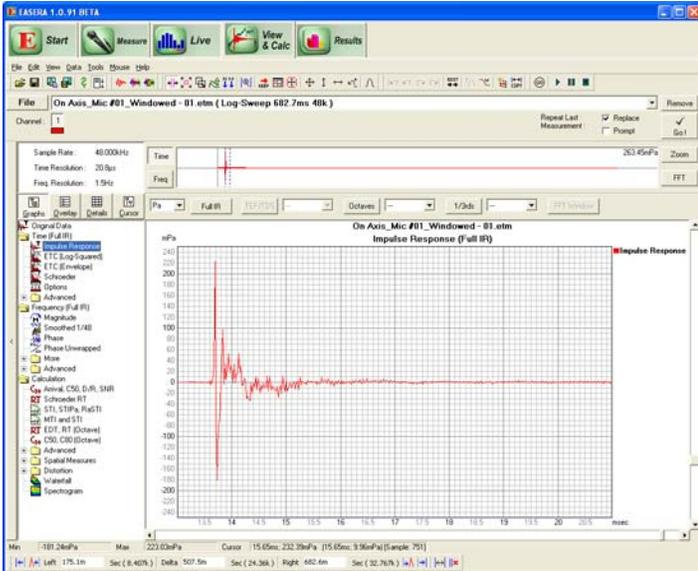
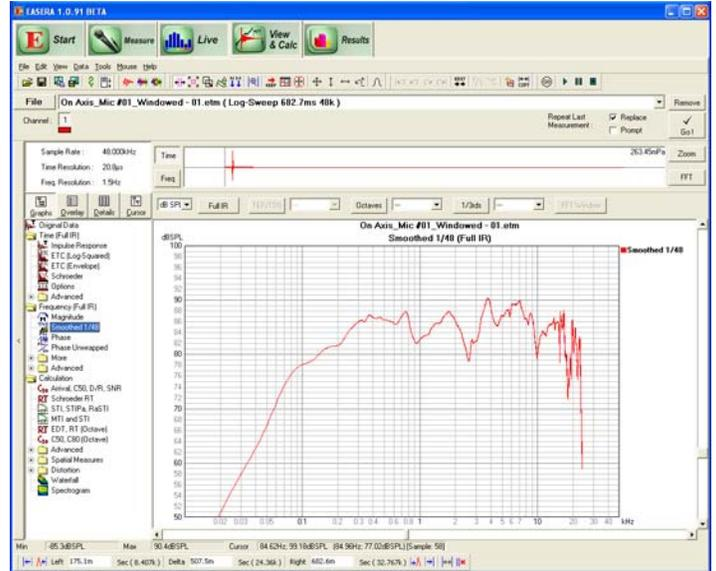
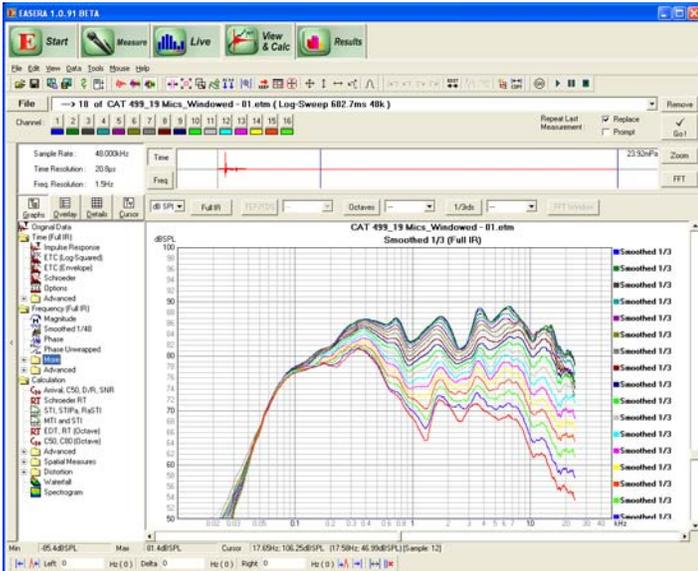
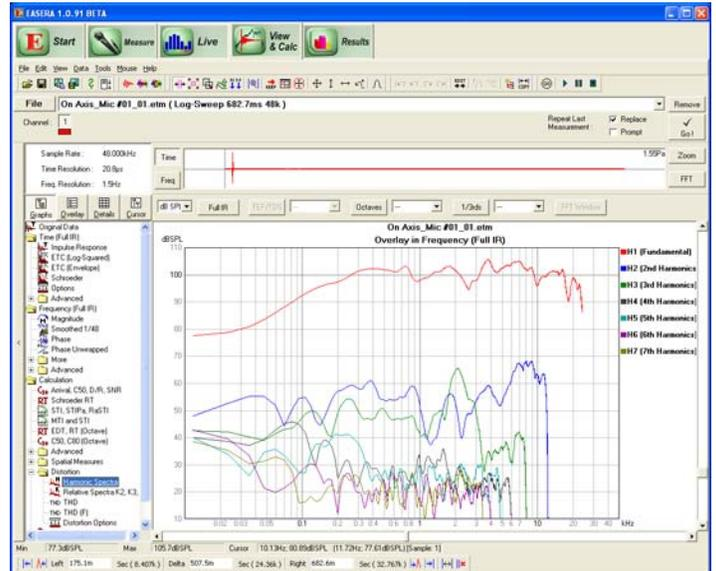

Figure 5 – Impulse response of a loudspeaker
Figure 6 – Frequency response
Figure 7 – Overlay of directivity (polar) frequency response curves
Figure 8 – Harmonic spectra
As soon as EASERA has completed a measurement the data will be displayed in the View & Calc tab. The measured impulse response (IR) of a loudspeaker system is shown in Figure 5. The same measurement is shown in Figure 6 as the magnitude (frequency) response. By simply selecting any display type in the left pane the calculations for that display are performed and appear almost instantaneously in the right pane. Multiple measurements may be overlaid. A set of polar measurements in one plane is shown in Figure 7. Harmonic distortion spectra are also easily displayed (Figure 8).